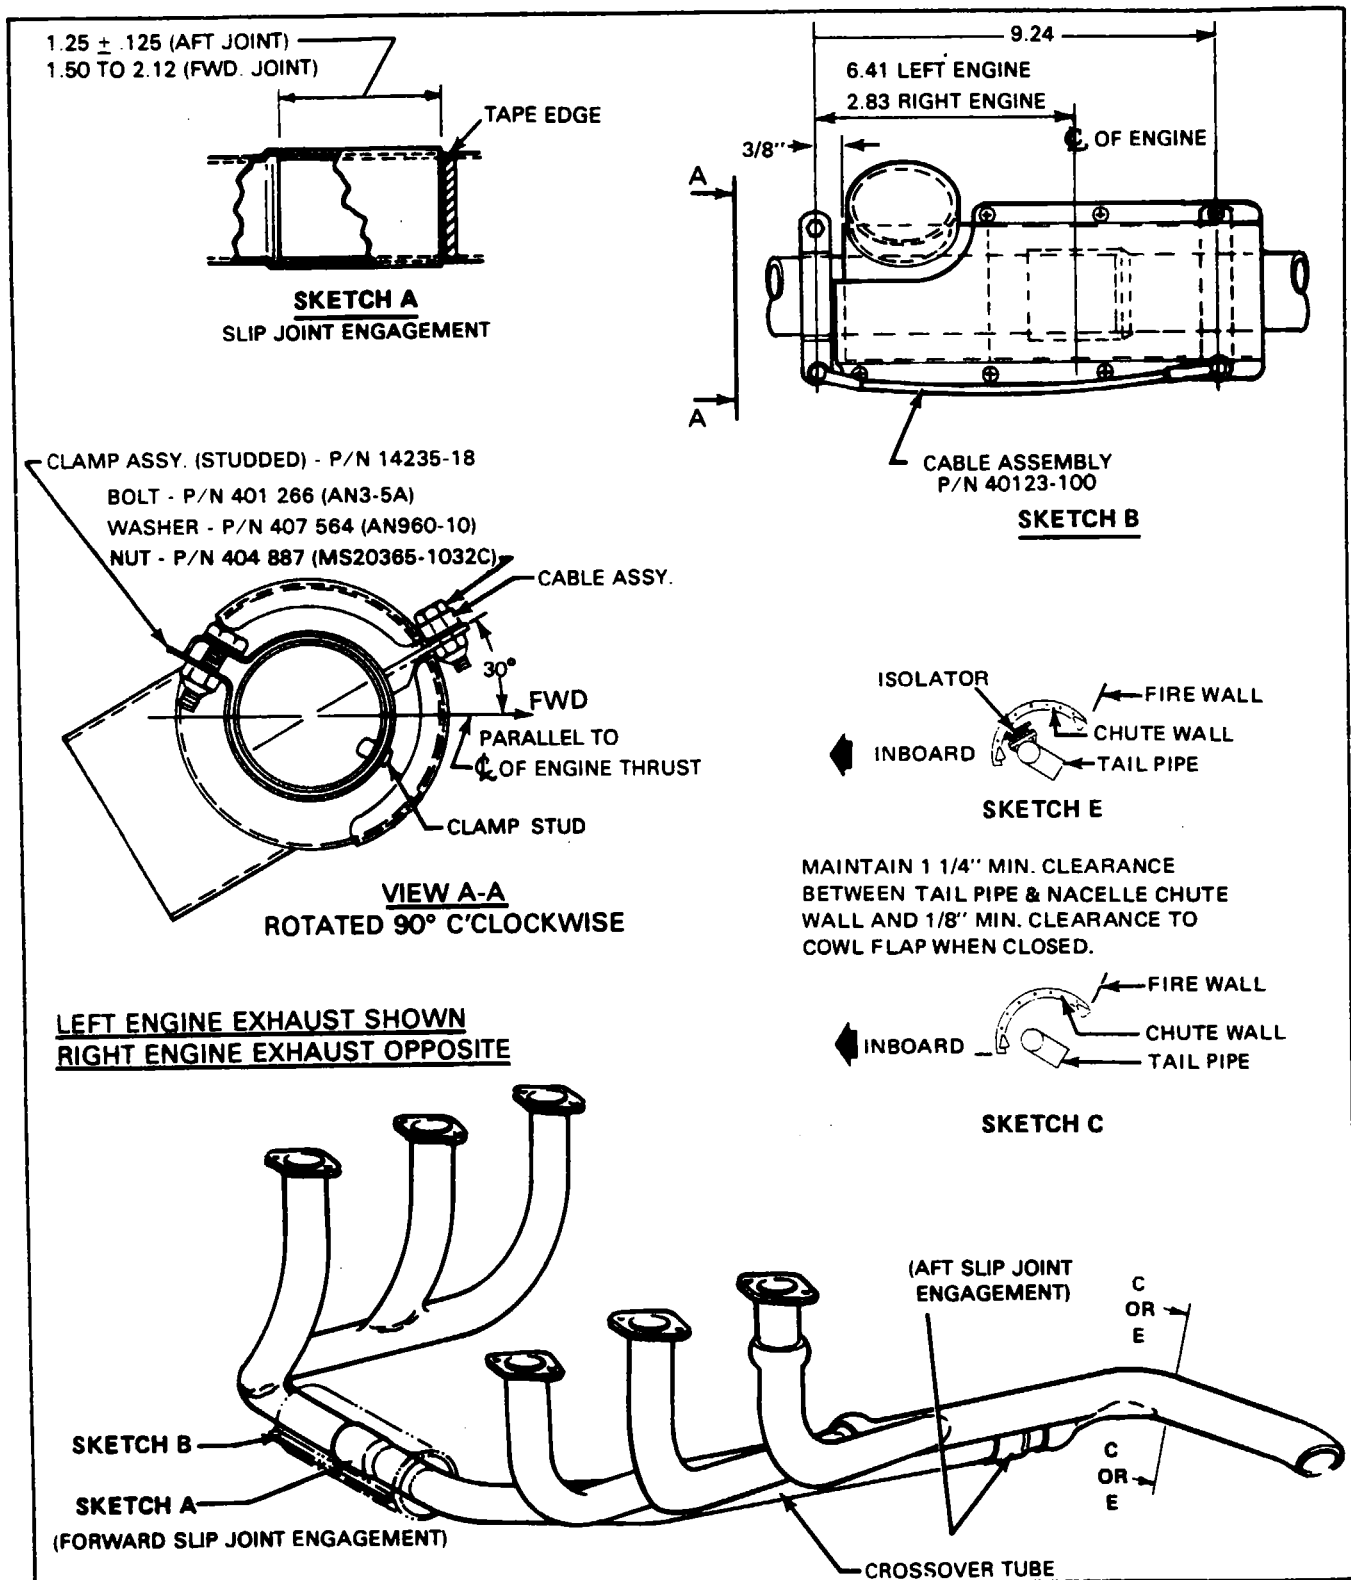

Figure 8-22. Adjustment of Ball Joint Exhaust System
8-79. CHECKS AND ADJUSTMENTS OF BALL JOINT EXHAUST SYSTEM. (Refer to Figure 8-22.) Refer to the latest revision of Piper S/B No. 662.
g. Align the ball joint centerline with the centerline of the mating tube, forward and aft of the ball joint as shown in Figure 8-22. Ascertain that the crossover tube is properly positioned in the slip joints by checking the location of the previously made reference marks. Retighten the exhaust system. Measure the distance between the slip joint end and the tape. Subtract this dimension from the dimension recorded in step f. Refer to Figure 8-22 for min./max. slip joint engagement dimensions.
i. Adjust the clamp at the end of the support bracket to securely hold the tube. (Refer to Figure 8-22, Sketch B.)
2. There must be a minimum clearance of 1-1/4 inches between the tail pipe and the fire wall chute, as shown in Figure 8-22, Sketch C. If this dimension is not obtainable, the system is not set properly and should be readjusted.
j. Replace existing shroud assembly with the new assembly P/N 33178-02 and 33178-03. Ascertain that 3/8 of an inch clearance is maintained between the end of the takeoff assembly and the flange on the new shroud. (Refer to Figure 8-22.) The mounting holes in the new assembly should match the existing holes of the clamp assembly. The clamp should be moved to locate the shroud and maintain the end clearance. Attach cable assembly to shroud half retaining screw and studded clamp assembly.
k. Ascertain that the takeoff assembly is securely fastened to the stack; this may require bending the ears of the takeoff assembly down over the stack before tightening the clamp. (Refer to Figure 8-22.)